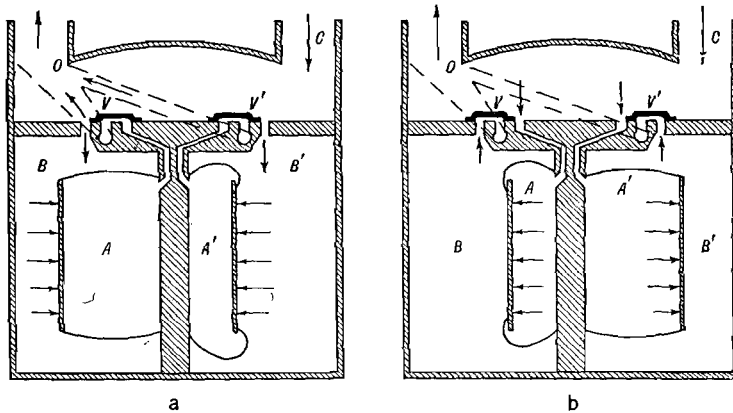

Fig. 7.5. Diagrammatic cross section of a gas meter.
**41. The Gas Meter.** A gas meter is a mechanical device which is operated by the pressure of the gas passing through it and which measures the number of cubic feet of gas passing through it. The meter receives the gas from the pressure regulator and delivers it to the pipes which distribute it to the burners. The meter contains four gas compartments with flexible walls. (See Fig. 7.5.) Gas enters at  $C$ , and flows into  $B$  and  $B'$  and expands these compartments. At the same time gas is expelled from  $A$  and  $A'$  into  $O$ , which connects to the pipe leading away from the meter. The motions of these walls operate levers which move the sliding valves  $V$  and  $V'$  to the positions shown in Figure 7.5b. Then  $A$  and  $A'$  fill and  $B$  and  $B'$  empty. In order to maintain a constant flow one pair of compartments